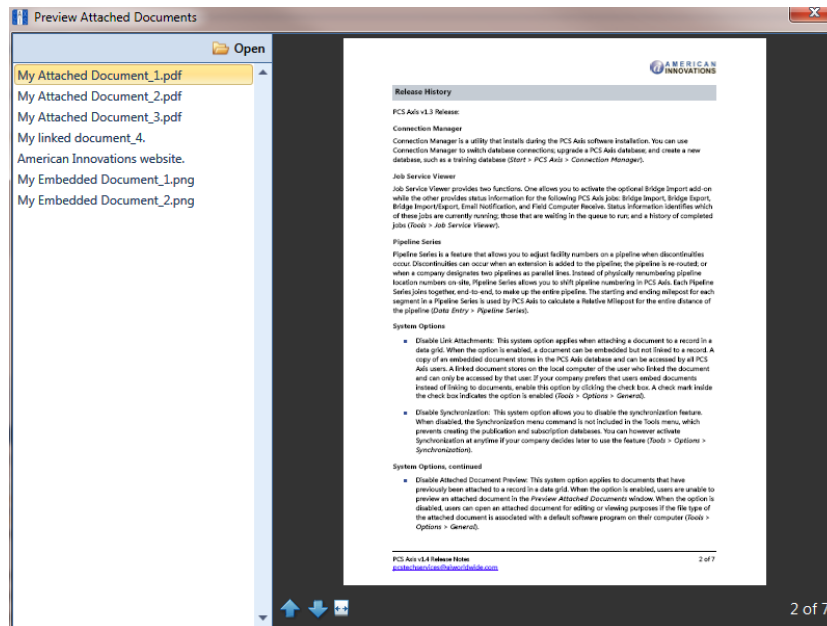

Figure 7-139. Preview Attached Documents
- 5 When the *Preview Attached Documents* window opens, select a file in the list on the left side of the window to preview the file (Figure 7-139).